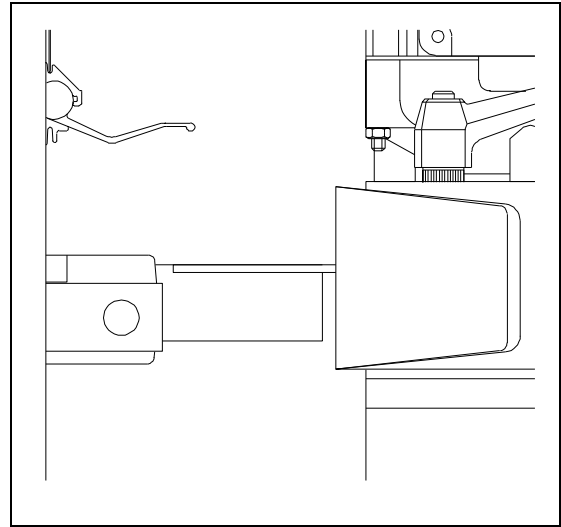

Figure 22
- 4 Position the saw-blade at the same height as midway fences (Figure 22).